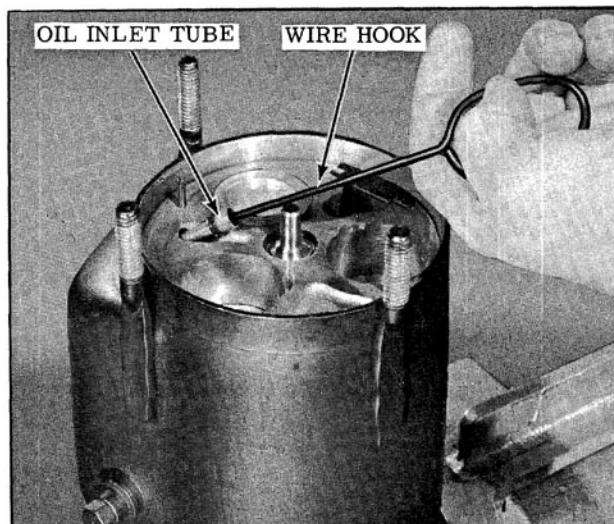

Fig. 14-109 Removing Oil Inlet Tube
8. Remove the oil inlet tube and "O" ring. Discard "O" ring. (Fig. 14-109)